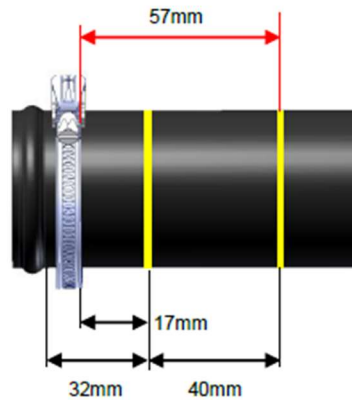

Figure 10
- 4.7.5 If the silicone hose is longer and exceed the measurement position 32mm make a new reference mark further. Example Single Clamp: 40mm mark (depending on the excess hose) and reposition the clamp at 57mm. (Figure10)